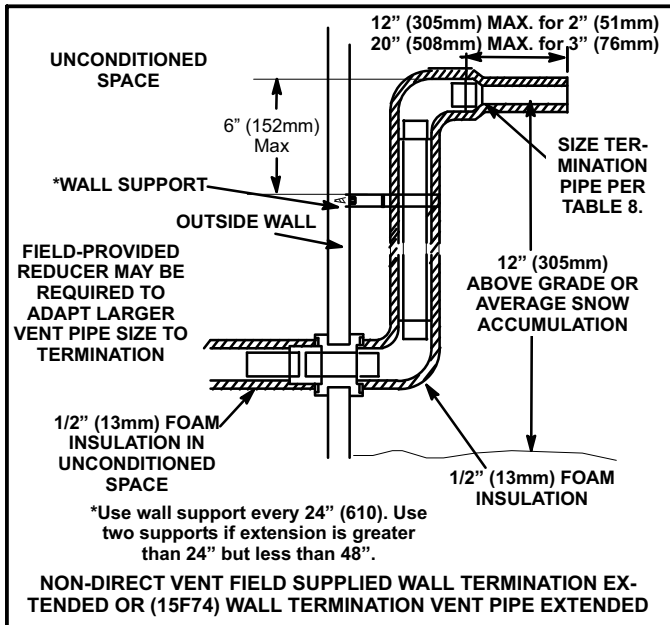

FIGURE 39
- 3 - If exhaust piping must be run up a side wall to position above snow accumulation or other obstructions, piping must be supported every 24 inches (610mm) as shown in figure 39. When exhaust piping must be run up an outside wall, any reduction in exhaust pipe size must be done after the final elbow.